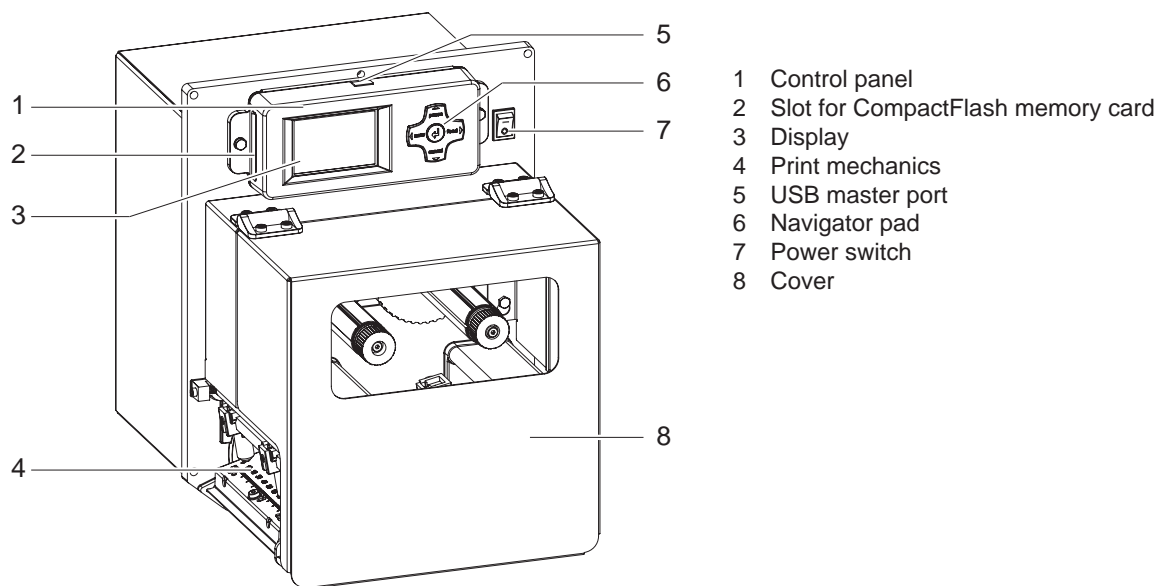

Fig. 1 Overview
- ▶ Switch the print module on at the power switch (7 / fig. 1).